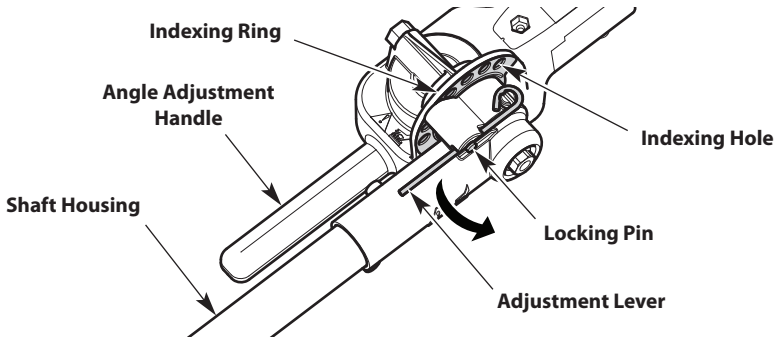

Fig. 8
1. Hold the angle adjustment handle (Fig. 8) with the left hand. Hold the shaft housing (Fig. 8) with the right hand.
2. With the right thumb, push the adjustment lever (Fig. 8) away from the indexing ring to unseat the locking pin (Fig. 8).
4. Align the locking pin with the desired indexing hole in the indexing ring (Fig. 8).